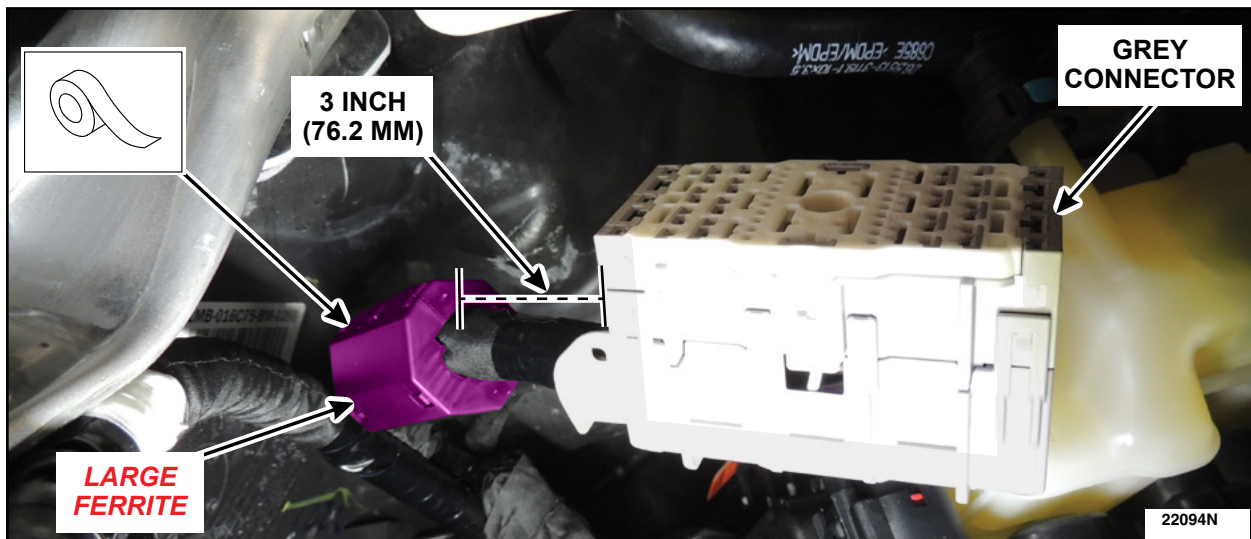

FIGURE 15
21. Measure 3 inches (76.2 MM) from the back of the grey connector. Install a **LARGE** ferrite (item A) to the wiring harness in the designated location. See Figure 15. Apply 3 wraps of Coroplast® tape around the ferrite to secure it closed *and any additional tape to prevent movement on the harness.*